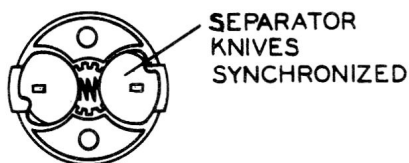
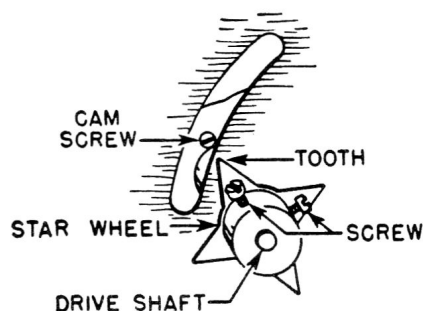

FIG. 9
FIG. 10 STAR WHEEL TIMING
1. Turn the star wheel so that the separator knives are in the position indicated in Figure 9. This may be determined by "feel" as the star wheel is turned.
2. Loosen the two set screws (61) sufficiently to permit the star wheel to rotate without disturbing the shaft(7).
3. Rotate the star wheel so that one tooth points directly to a cam screw as shown in Figure 10.
4. Tighten the two set screws (61) and rotate the mechanism through a complete cycle to check operation. The separator knives must rotate 360° to the starting position as indicated in Figure 9.